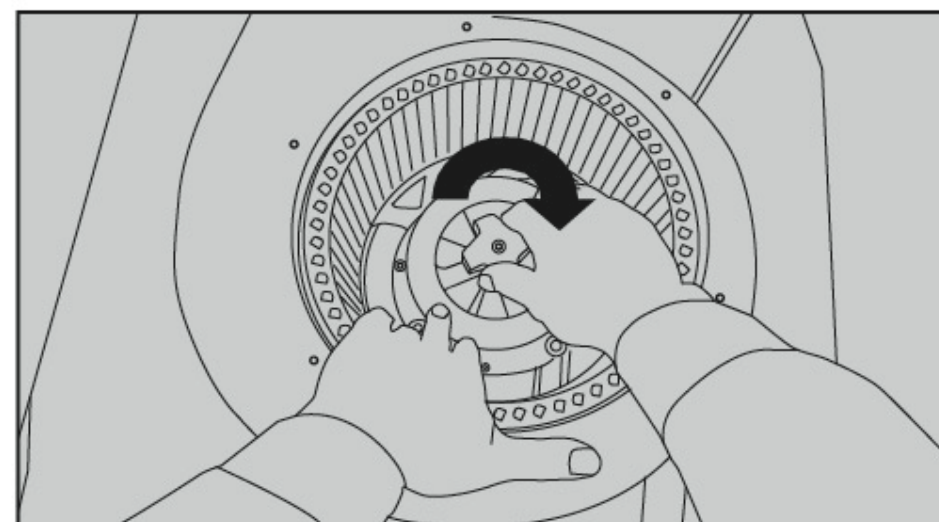

Fig.9
- 8. Screw off the locknut clockwise, Take out the impeller (see Figure 9).